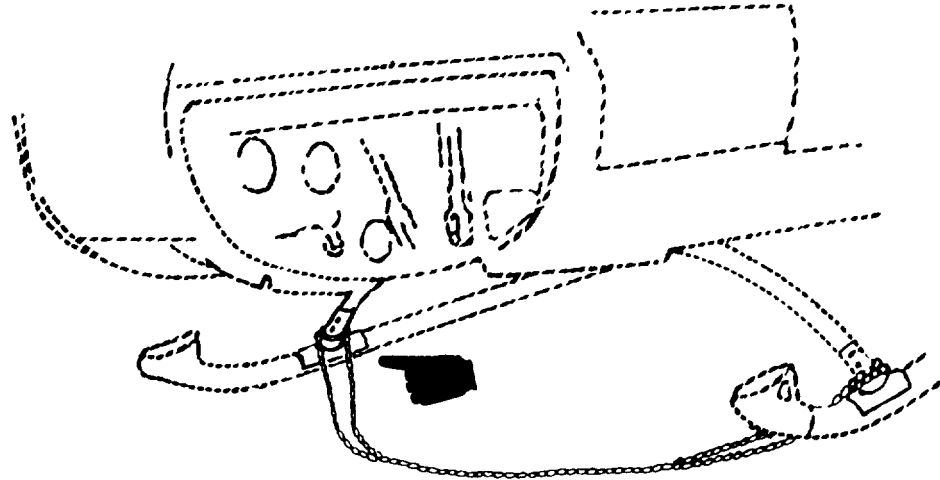

Figure 2-11.1 MB-1 Chain Winching Bridle Attached to Helicopter for Winching
- f. Using a minimum of three MB-1 chains per side, form a chain winching bridle around front crosstubes (Figure 2-11.1). Wrap the chains twice around the bottom of the crosstube strut, below the connecting bolts. Attach winch cable hook to chain bridle and remove slack from cable.